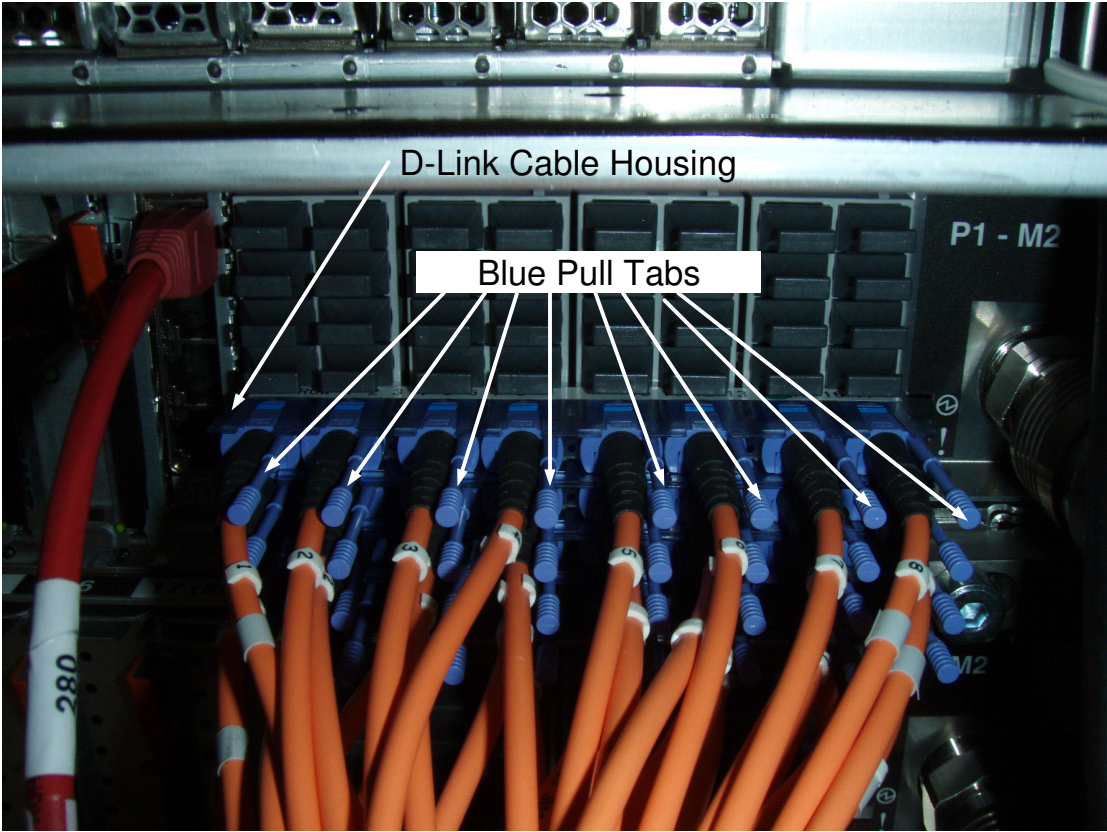
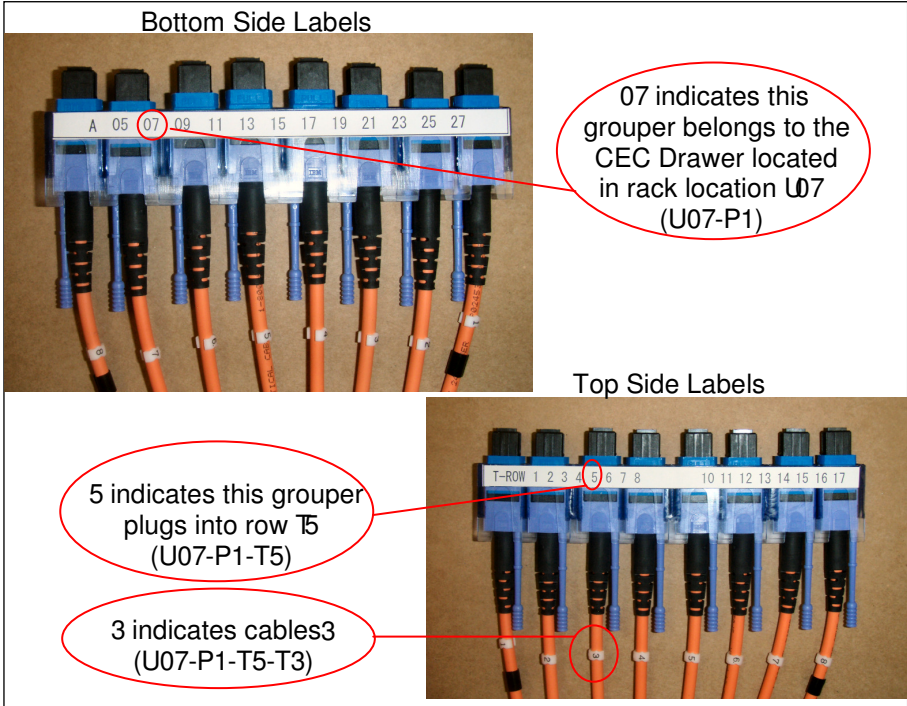

Figure 25 D-Link Grouper
Figure 26 D-Link Grouper assembly detail
STEP 37 Remove the CEC Drawer D-Links from both the left and right rear of the CEC Drawer (Right side of CEC shown in Figure 25) being serviced by pulling on the blue tabs of each D-Link. Take care not to bump the fiber optic connectors against any surface including body parts. (The row of D-Links are contained within the D-Link Grouper and will remain in the housing. It is worth noting that the housing has a label on it with its location and each cable has a label – see Figure 26.) Must remove cable support brackets.